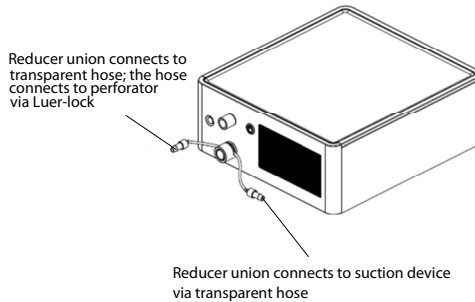

Figure 4-11 Connection diagram of the suction tube
3. Clip the slim tube into the groove of the smog exhaust control valve on the insufflator's front panel. To prevent the pipe fitting from collapsing, clip the middle of the Ø5 slim tube into the pinch valve and avoid twisting the suction tube. As shown in Figure 4-11.